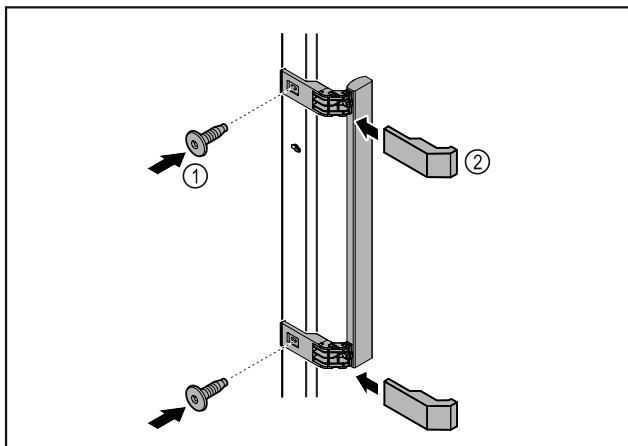

Fig. 64
- Attach handle from accessory kit to the door using the screws supplied Fig. 64 (1).
- Put on cover Fig. 64 (2).